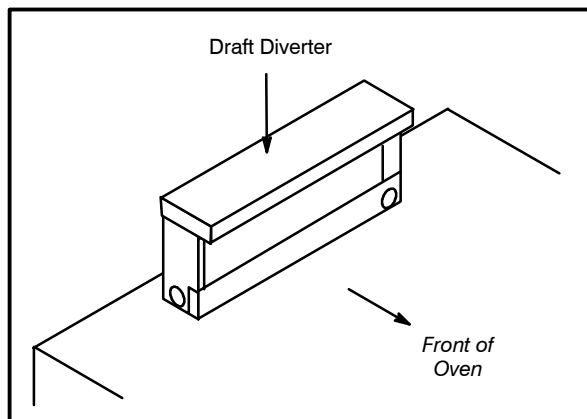

Figure 6
1. Place the diverter over the flue connector with the open area facing the front of the oven. See Figure 6.